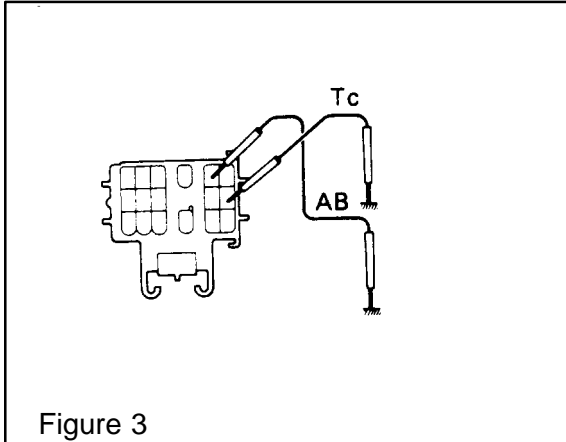

Figure 3
- With the engine off, connect service wires to terminals Tc and AB of the diagnostic check connector located in the engine room (see Figure 3).